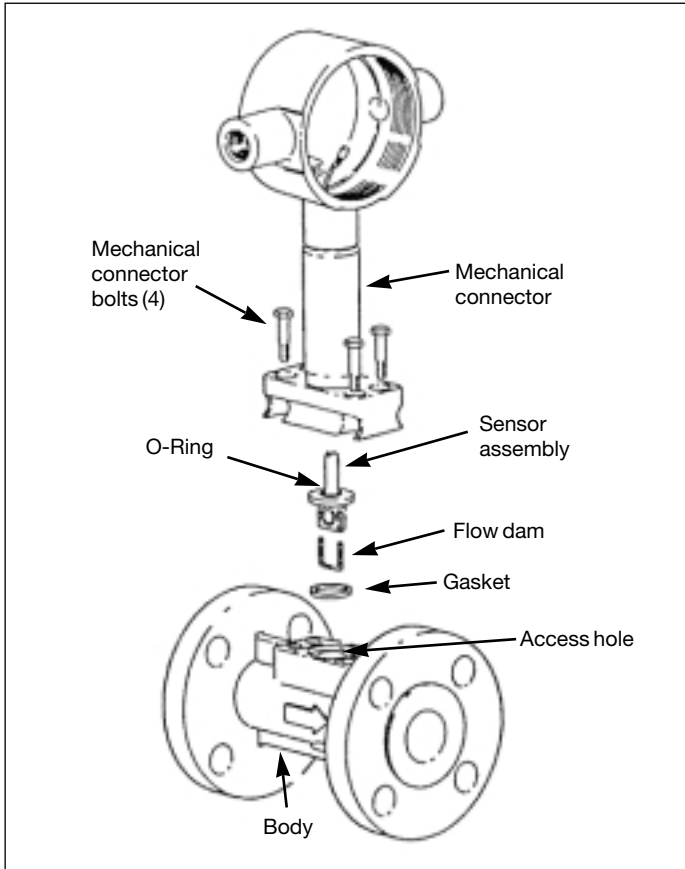

Figure 36. VFM 3100 Assembly/Junction Box
- See Figure 36. Remove mechanical connector bolts. (CENELEC Certified Flameproof VFM 3100 have special connector bolts as well as a shroud plate over the standard connector. Once the bolts are removed, the shroud plate is retained between the connector and housing.)